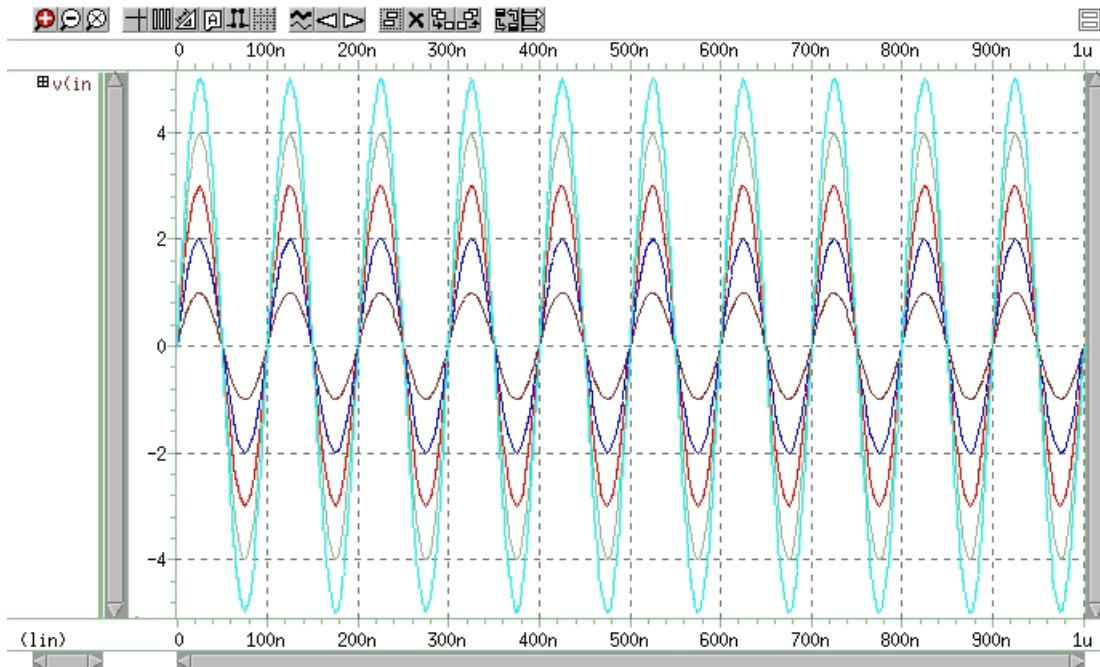

Figure 198 Plot of Voltage on Node in
5. Left-click on the signal $v(in)$, then drag and drop the selected signal into the WaveView panel to display a plot similar to the one shown in Figure 198 on page 1012.